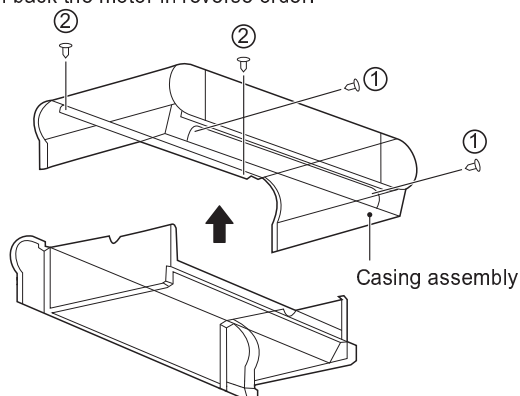

Figure 4-4 Removal of casing
- As shown in Figure 4-4, remove screws ①\*2 and ②\*2 and then the casing.